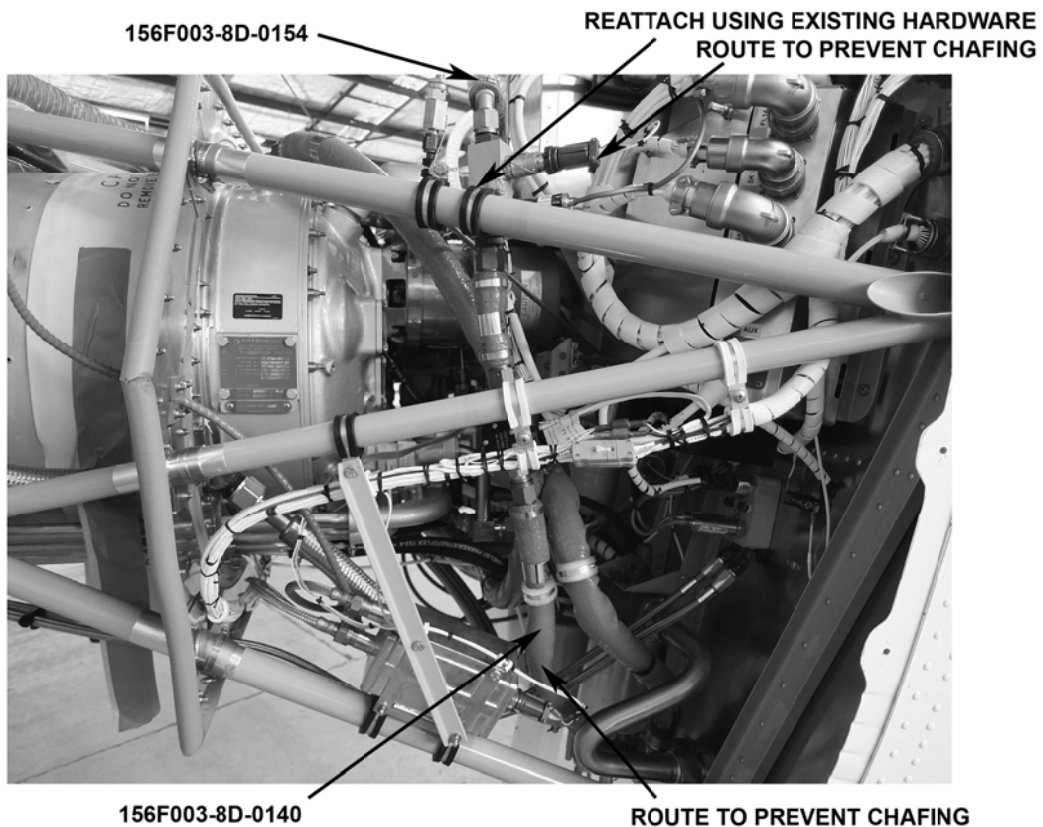
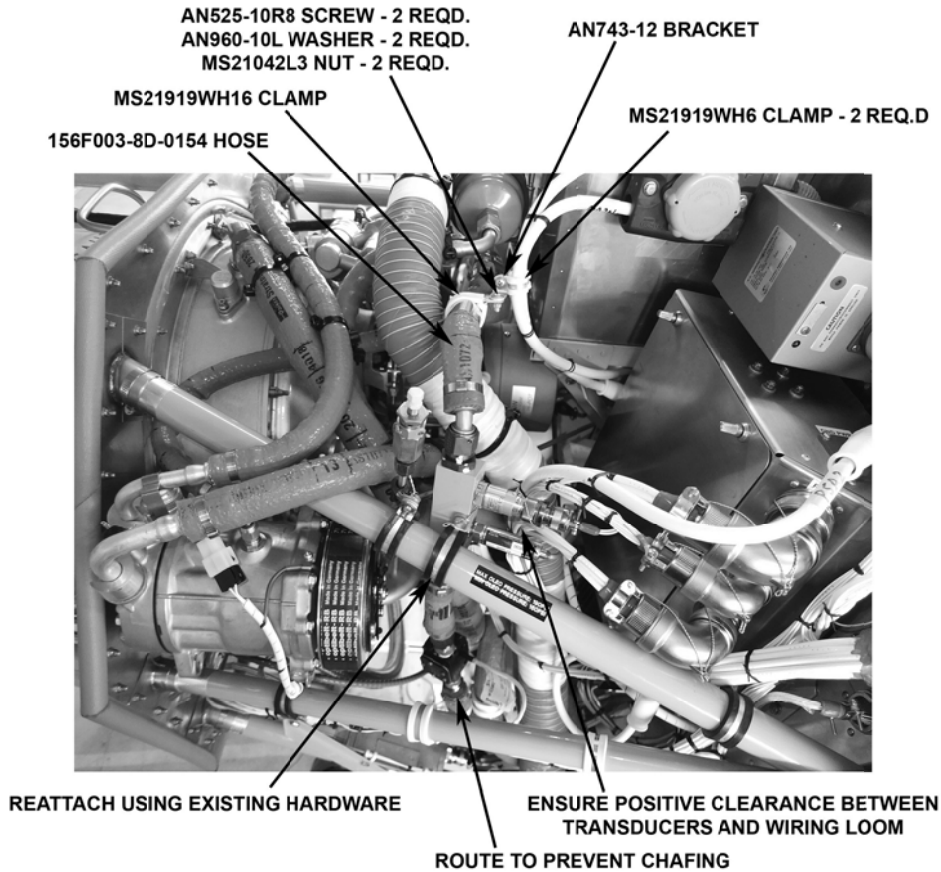

FIGURE 2 RELOCATED HOSES – L.H.S. OF POWERPLANT
FIGURE 3 RELOCATED HOSES – L.H.S. OF POWERPLANT
- 4) Reinstall the (longer) P/N 156F003-8D-0154 Hose to run from the Pressure Switch/Transducer Manifold to the engine. Reinstall the (shorter) P/N 156F003-8D-0140 Hose to run from the Firewall Tee to the Fuel Flow Transducer inlet. Reinstall the Fuel Flow Transducer and the Fuel Pressure Switch/Transducer Manifold. Refer to Figure 2 and Figure 3 below.
- 6) Ensure all Fuel Lines are routed to prevent chafing against adjacent components and electrical wiring prior to tightening the fittings and installing the P Clips. Ensure the Main Battery Leads are P-clipped to the Fuel Feed Hose to ensure positive separation (See Figure 3).